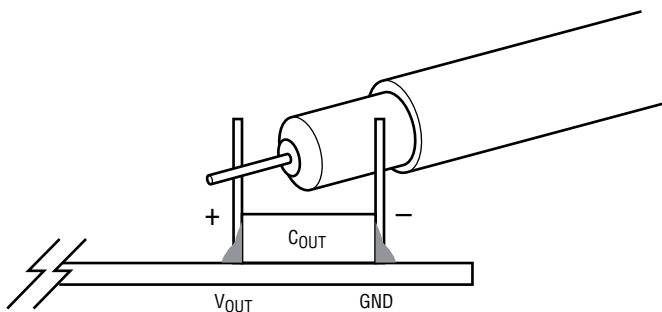

Figure 2. Scope Probe Placement for Measuring Output Ripple Voltage
7. Once the input and output voltage are properly established and the fan is turned on, adjust the load current within the operating range of 0A to 360A max. Observe the output voltage regulation, output voltage ripples, switching node waveform, load transient response and other parameters. Refer to Figure 2 for proper output voltage ripples measurement.
NOTE: To measure the input/output voltage ripples properly, do not use the long ground lead on the oscilloscope probe. See Figure 2 for the proper scope probe technique. Short, stiff leads need to be soldered to the (+) and (–) terminals of an input or output capacitor. The probe's ground ring needs to touch the (–) lead and the probe tip needs to touch the (+) lead.